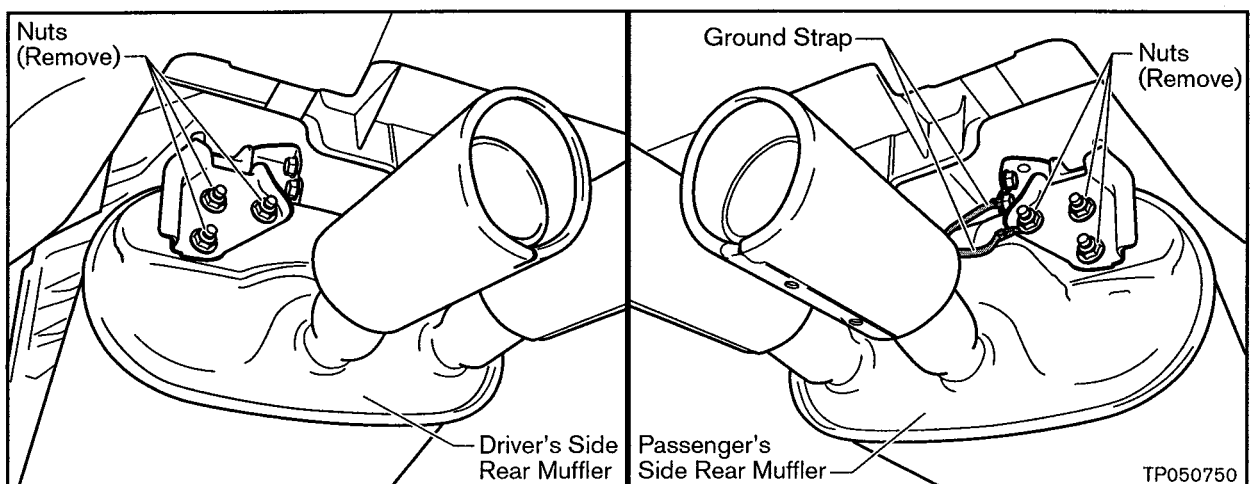

Figure A6
- c. Remove six nuts and disconnect the rear mufflers from the mounting brackets (see Figure A6).
- Note the location of the ground strap on the passenger side (RH) muffler. It needs to go back in the same place.